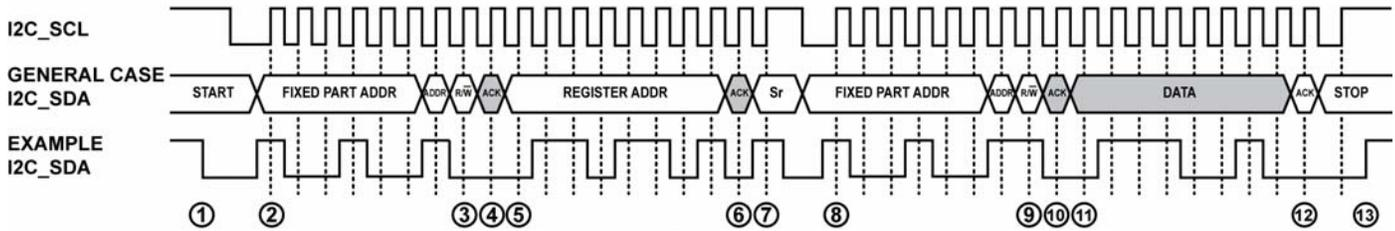

Figure 15. I2C Read Diagram
9. Send the read indicator bit (1).
- a. Send a stop condition (while holding the I2C\_SCL line high, pull the SDA line high) and release control of the bus to end the transaction (shown in Figure 15).